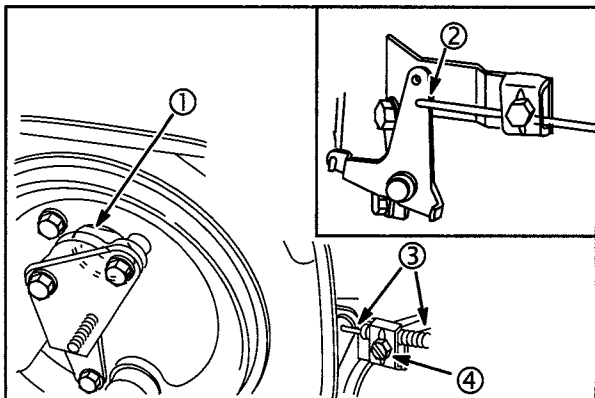

Fig. 24
**NOTE:** Be sure choke control wire is installed in #2 hole (2) in choke lever, **Fig. 24**.